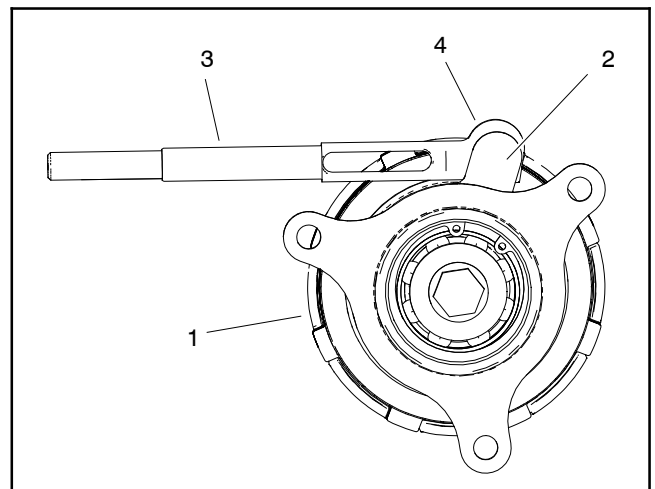

Figure 51
2. Position clutch shaft assembly into clutch housing. Orientate actuator on clutch shaft assembly so that actuator pin (item 17) can be connected to the actuator during assembly.
3. Insert actuator pin through hole in clutch housing and connect hook on actuator pin to actuator on clutch shaft assembly (Fig. 51).
4. Secure actuator pin into clutch housing with locator pin (item 7). Make sure that locator pin is inserted in slot in actuator pin.
5. Secure clutch shaft assembly in clutch housing with three (3) socket head screws.
6. Make sure that O-ring is placed on actuator plug (item 15). Carefully install plug to actuator pin and clutch housing taking care to not damage oil seal in plug during assembly.
9. Align holes of clutch housing, gasket and cover. Secure cover to housing with eight (8) washer head screws. Tighten screws as follows:
10. Thread jam nut (item 12) and then spring anchor (item 11) onto actuator pin. Do not tighten jam nut until after clutch has been installed onto transmission housing.